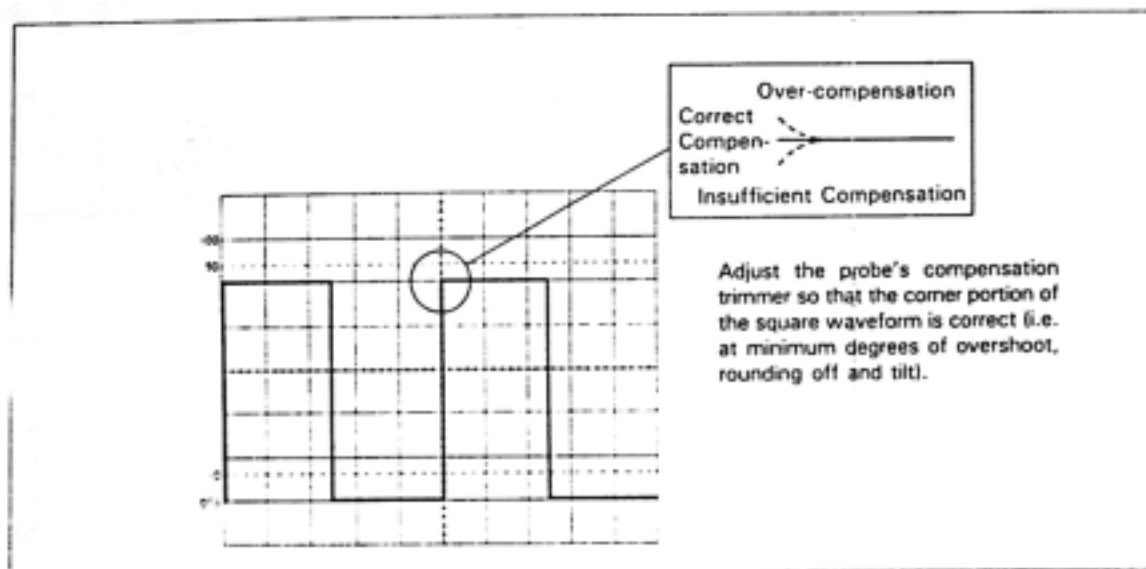

Figure 3. Probe Compensation Adjustment
4. Plug the probes into the INPUT jacks of each channel. Set the AC-GND-DC control at DC and the VERT MODE control at CH1. Plug the CH1 probe to the CAL terminal and set the VOLTS/DIV control at 20mV/DIV. Adjust the \blacktriangle POSITION control so that all of the waveform can be seen. With the waveform in this position, carry out probe compensation adjustment using Figure 3 and the probe Instruction Manual.